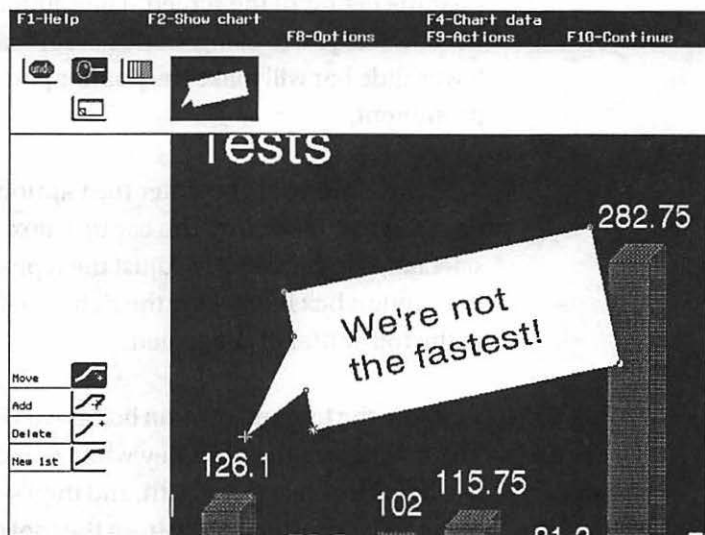

FIGURE 5-7 Text pointer boxes, like this one created in Harvard Graphics, emphasize the important points in your presentation.
A good way to make your point in a presentation graphic is to literally point it out. A pointed caption box (Figure 5-7) comes in handy for that purpose: It's simply a rectangular (hence, easily drawn) version of a cartoon text balloon. Here's how to create and use this type of caption box in most presentation and drawing programs:
3. Select the rectangle and then choose whichever command lets you reshape the polygon. Drag the middle handle on the side from which you want the pointer to extend, as we did in Figure 5-7.
7. If you want to change the direction of the caption box pointer, as we did in Figure 5-7 on page 313, you'll first need to convert the box to a polygon. To do that, select the box and then click the *To poly* icon from the tool palette. Then, to adjust the pointer, click the *Edit pts* icon and editing handles will appear at points along the polygon. You'll notice that the pointer side of the caption box is composed of three additional handles, just as we described in